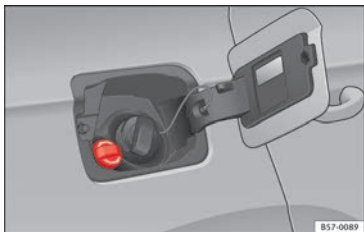

Fig. 228 AdBlue tank cap.
- Open the tank cover » Fig. 228.
- Turn the SCR tank cap anti-clockwise » Fig. 228.